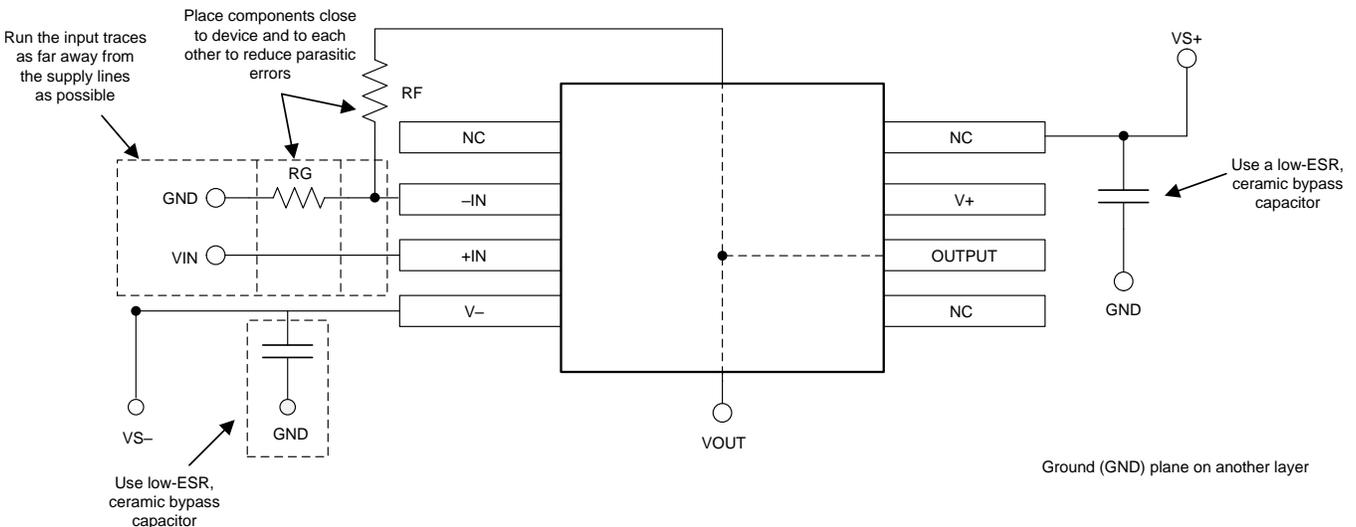

图 52. Operational Amplifier Board Layout for Noninverting Configuration
- Place the external components as close to the device as possible. As shown in Figure 52, keeping RF and RG close to the inverting input minimizes parasitic capacitance.